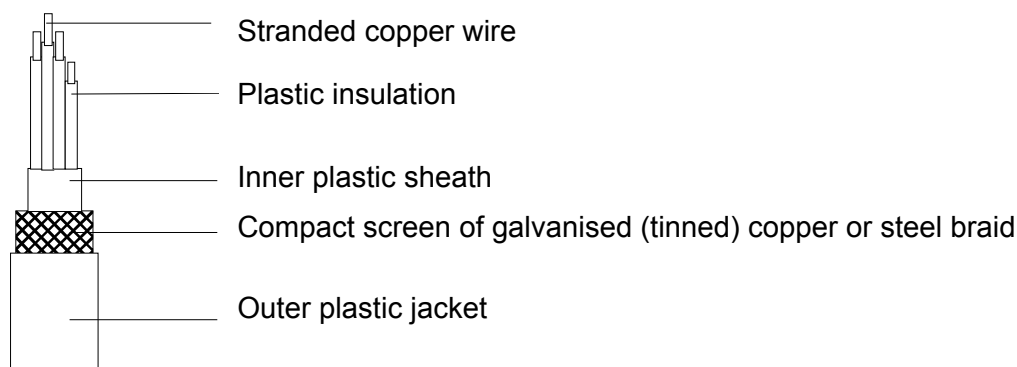

Figure H-2: Specification for screened cable
- The cables between cabinet / armature output and DC-motor armature shall be 3-wire screened cable (+, - and earth conductor green/yellow) as specified in Figure H-2.
These signal leads must be screened cable as specified in Figure H-2.